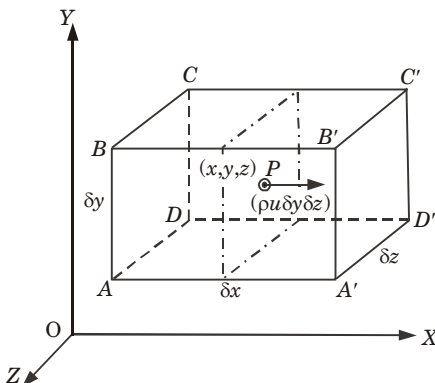

Fig. 2.6.1. Elementary rectangular parallelopiped.
- Consider an elementary rectangular parallelopiped with sides of length $\delta x, \delta y$ and δz as shown in Fig. 2.6.1.